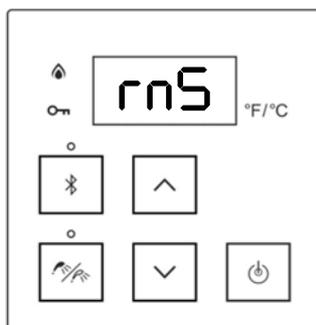

Figure 82
14. After 60 minutes flushing time completes, display shows “rn5” (rinsing) (Figure 82) and beeping sound is observed.